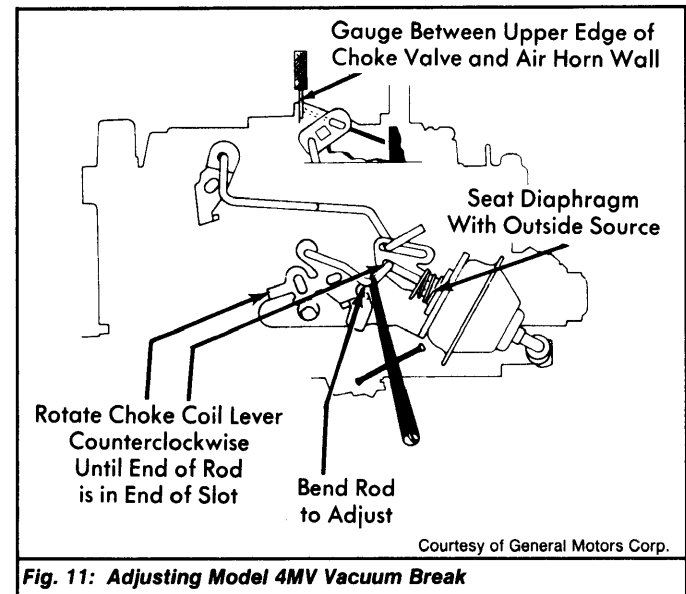

Fig. 11: Adjusting Model 4MV Vacuum Break
2) Gently rotate choke coil lever counterclockwise until end of rod is in end of lever slot. See Fig. 11. Insert pin gauge or drill bit of specified size between air horn wall and upper edge of choke wall. Bend rod if adjustment is needed.